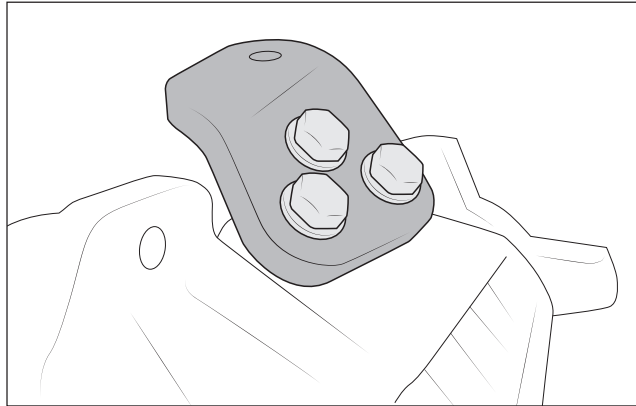

Figure 9
A. Install top mount above pinion reusing factory bolts and washers torqued to 81 ft-lb (fig. 9).